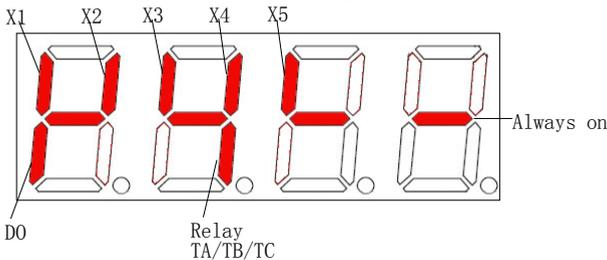

Fig. 5-12-1 Terminal status diagram of S2R4GB~3004GB
- ◆ Model of 3004GB and the below models: The terminal information includes status of terminal X1~X5, bi-direction open-collector output terminals D0 and relay output terminal TA. The status of terminals is indicated by “on” or “off” of the segment. The segment will turn on if the terminal is valid. The segment will turn off if the terminal is invalid. The central four segments are always on for the convenience of observation. As shown in Fig.5-12-1: